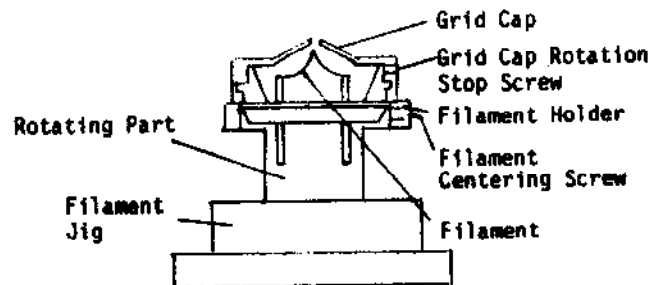

Figure 2
3. Carry out the following procedures referring to Figure 2 for mounting a new filament: Insert the filament into the filament setting jig (accessory). The orientation of the filament does not matter. Place the filament holder upon the filament base, then slowly screw the grid cap onto the filament holder. Screw the grid cap in until the tip of the filament is flush with the top surface of the grid cap hole.